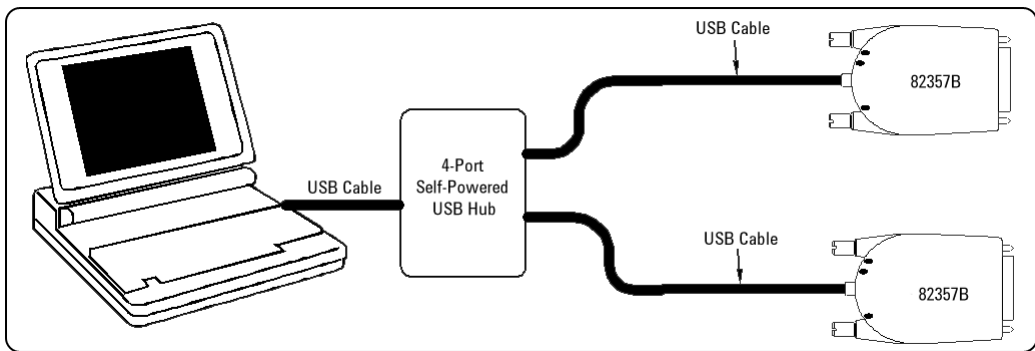

Figure 4-5 Connecting the 82357B to a USB Hub
- 1 Plug the power adapter into the hub and into an electrical outlet. Make sure the hub is operating in self-powered mode. **Figure 4-5** shows a 4-port self-powered USB hub with two 82357B USB/GPIB Interfaces connected.